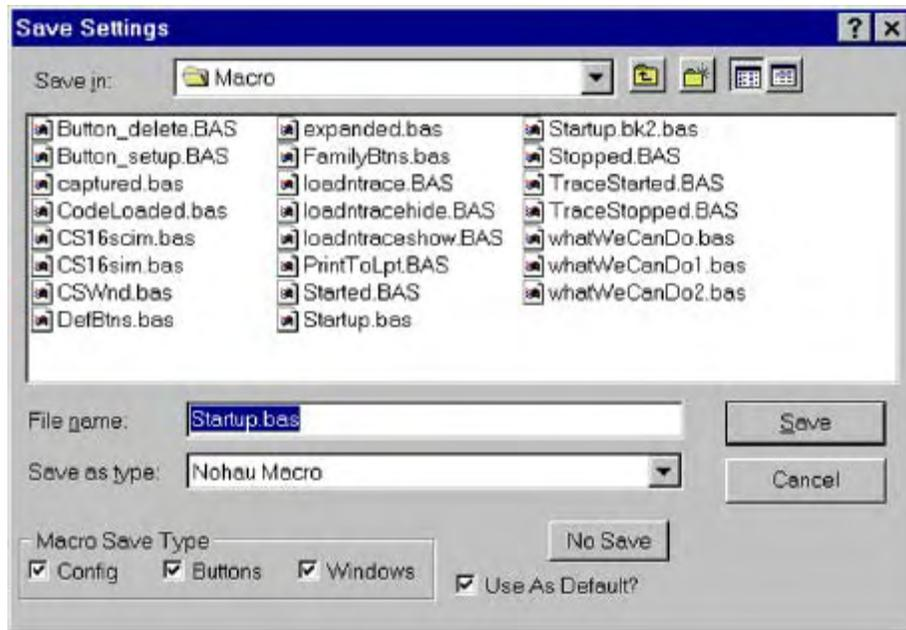

Figure 71. Save Settings Dialog Box
If you enter these commands in the file `Startup.bas`, they will be executed every time you start up Seehau. You can also save your own macro with the Seehau configuration setup. You are given this opportunity when you exit Seehau. Figure 71 shows the options you can select:
4. Exit from the Seehau software. The **Save Settings** dialog box opens where you can choose the filename for the newly created macro (Figure 71). Enter a filename of your choosing and click **Save**.